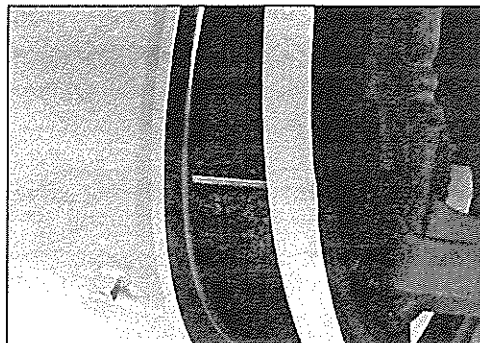
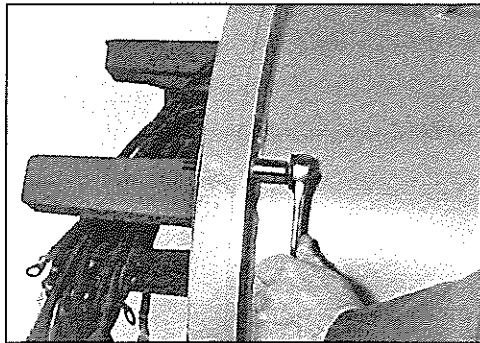

Figure 6-52
Figure 6-53
1. Install two guide pins (threaded rod can be used) into the generator side of the end bracket mounting holes. Align the guide pins with the holes in the generator frame and slide the bracket onto the frame (figure 6-52). Install bracket mounting capscrews (figure 6-53).